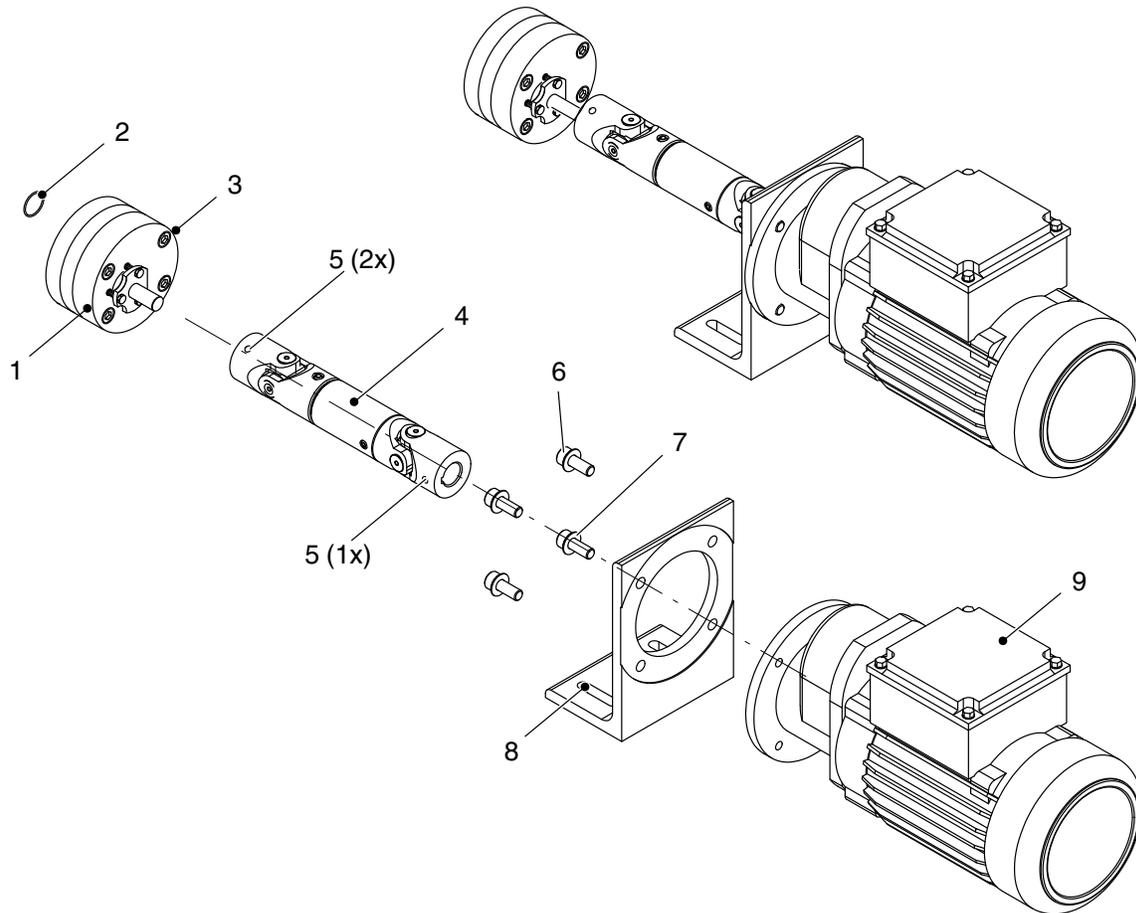

Fig. 7-16
3. Turn the cardan joint (4, Fig. 7-16) until the setscrew (5) on the motor side is accessible.
5. Remove the hex bolts (6) and detach the old motor (9).